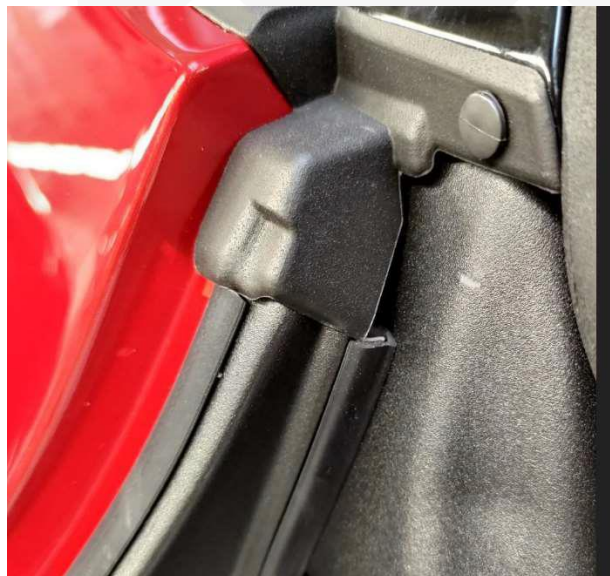

Figures 1: Overlapping and glued pads
- At this point, use the p/n code 670293545 in quantity 2 (figure 1).